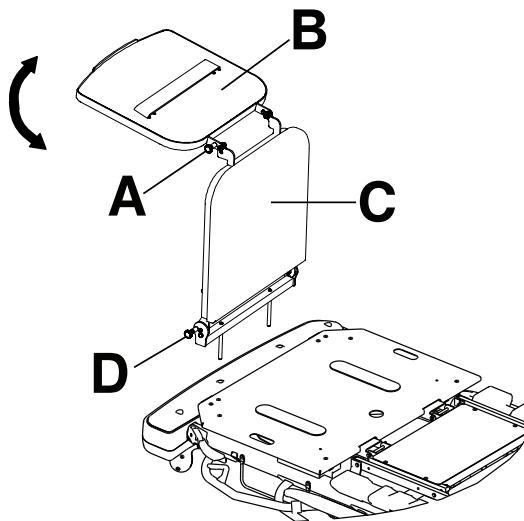

Figure 28 – Defibrillator tray/foot extender
1. Pull out the top knob (A) (Figure 28).
2. Pivot the defibrillator tray (B) until the tray is flat over the foot end of the product. Release the top knob (A). Make sure that the defibrillator tray is locked in place.
To convert the defibrillator tray/foot extender to a foot extender (Figure 28):